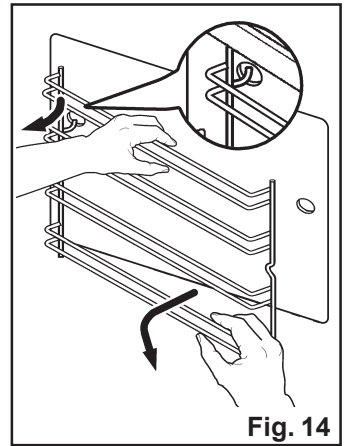

Fig. 14
2. disengage the rear hook and take off the shelf support (Fig. 14);